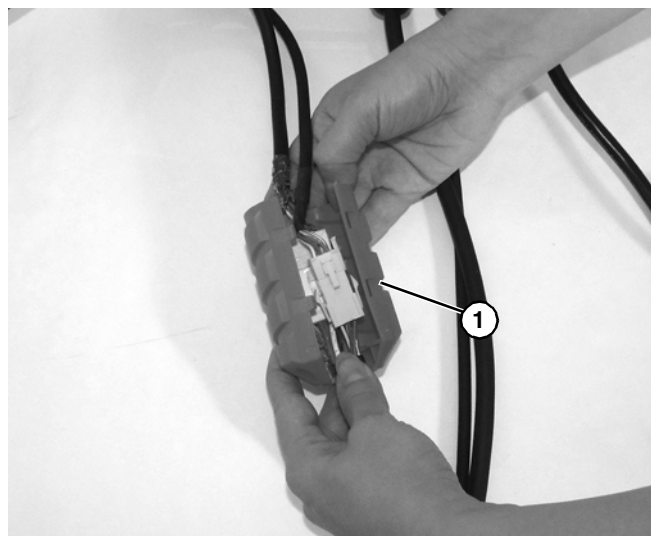

Figure 11
3. Open inner cord cover (**Figure 11, item 1**).